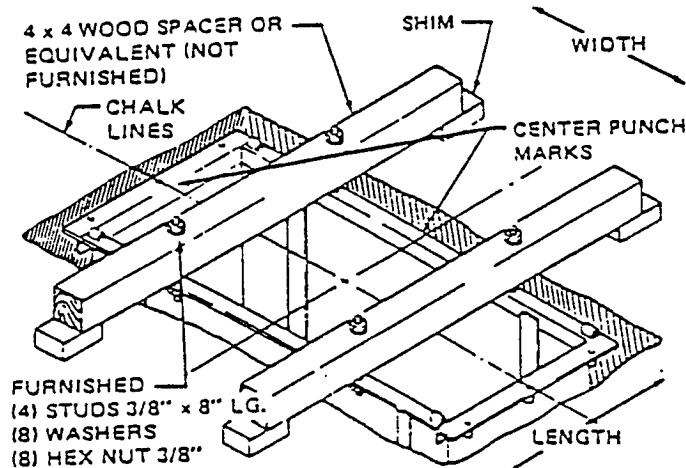

Fig. 10 Rear Frame Installation
3. Hookup a "sling" to the 3/8 in. holes in top of frame assembly or using the furnished studs, washers and hex nuts mount wood spacers to frame as shown in Fig. 10.
5. Lower tube and frame assembly into its excavation, with conduit form facing front trench. Check for proper spacing and align rear frame center punch marks with both chalk lines (Fig 10). Shim frame to finished floor height.